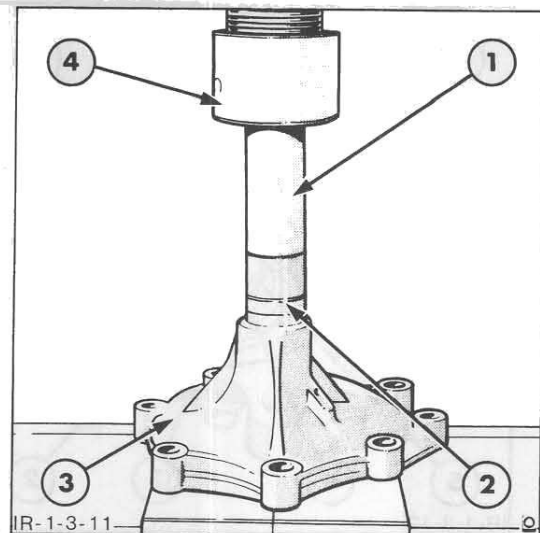

Figure 11
- Use a sleeve, which passes over the shaft and rests on the outside diameter of the bearing, to press the bearing and shaft assembly into the housing until the bearing is flush with the face of the housing, Figure 11. Use a straight edge to check the final position.